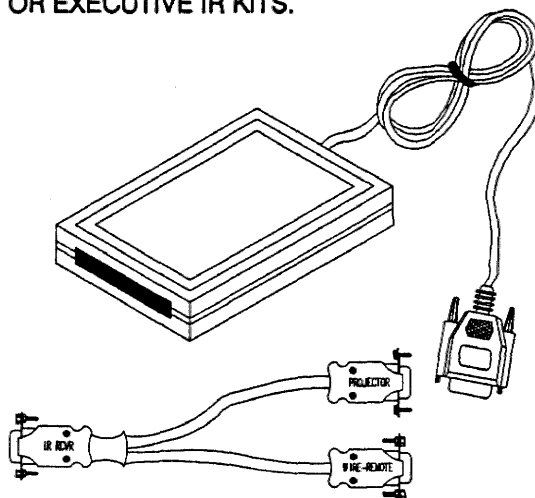

FIGURE B-1.
- STEP 1. Divide the white field pattern into 9 zones. Refer to Figure B-1. Note the area selection keys and the affected zone.
- STEP 5. GREEN ONLY! Measure and record the readings of each zone indicated in Figure B-1.
- STEP 6. Set zone 5 (Figure B-1) to the lowest reading (recorded above), with the [CONT] button.